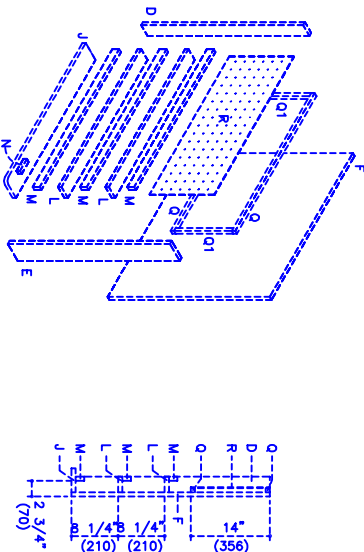
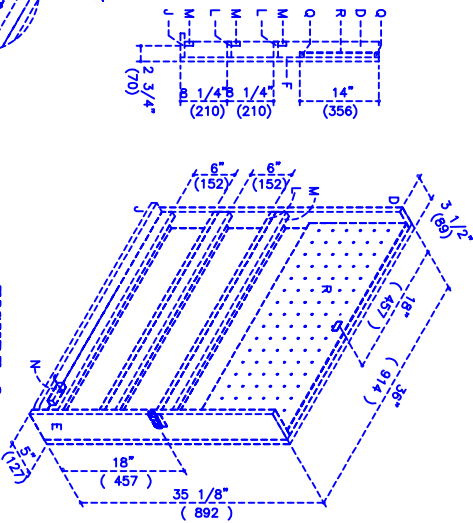
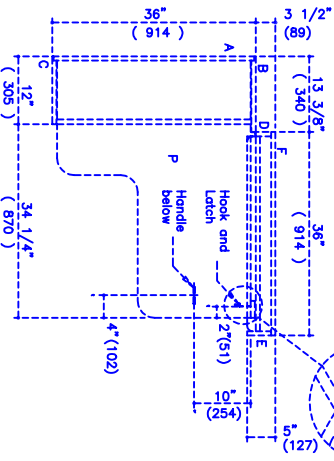

FIGURE 5
FIGURE 6
FIGURE 7
- 4) Make the two LM shelf assemblies by gluing the edge of M and nailing through pieces L into pieces M as shown with 1 1/2" finishing nails (Fig. 5). Glue one edge of piece W, draw a line 2" from the unrounded edge of piece J, (on the back of J), turn the piece over on top of M, and nail J to M, using 1 1/2" nails. Nail pieces Q and Q1 to piece F with 1 1/4" finishing nails. These pieces are to provide space behind your pegboard. Glue and nail pieces D and E to F with 1 1/2" finishing nails and nail the LM shelf assembly with the addition of F with 1 1/4" nails as shown (Fig. 6). Glue and nail on the pegboard R with 1 1/4" nails. Ensure the door fits snugly into the main assembly, trim as necessary if it is too tight. Attach the door to the main assembly with the piano hinge already attached to B as shown (Fig. 7). Pre-drill, glue and nail on spacer N to JM with 1 1/4" nails, flush with end of P when opened (Fig. 7). Wipe off excess glue.